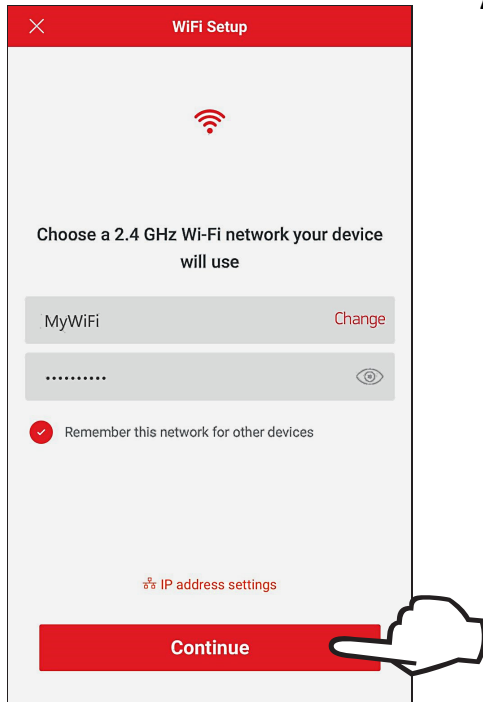

Figure 92. Wi-Fi Setup
4. The "Wi-Fi setup" screen will appear. Select or enter the Wi-Fi network you want your unit to be connected to and enter the network password. See **Figure 92**.